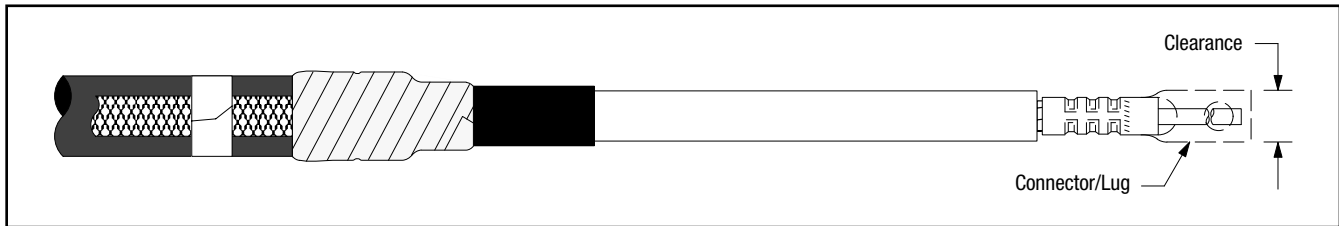

Figure 13
- 9.1 Check to insure the 3M™ Silicone Rubber Termination QT-III assembly fits over the selected lug or connector. If lug or connector (*Figure 13*) will not fit through the termination core, clean the insulation (*per Step 10.0*) and slide termination on cable before installing lug or connector. **DO NOT REMOVE CORE AT THIS TIME.**